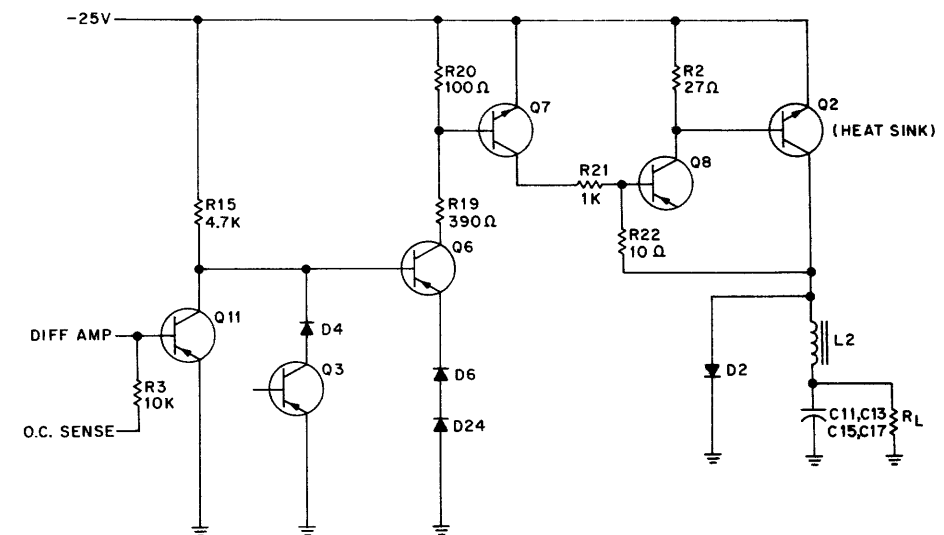

Figure 2-10 -15 Volt Driver
2.4.2.1 Driver – The -15V driver (see Figure 2-10) controls the state of switching transistor Q2 on the heat sink. The driver is controlled by signals from three sources: the -15V differential amplifier, the -15V overcurrent-sensing circuit, and the +5V low-sensing circuit. The first two signals control the base of transistor Q11. However, the input from the +5V low-sensing circuit effects control through transistor Q3. This is a departure from the circuit in the +5V regulator which connects all three inputs to the base of transistor Q10.